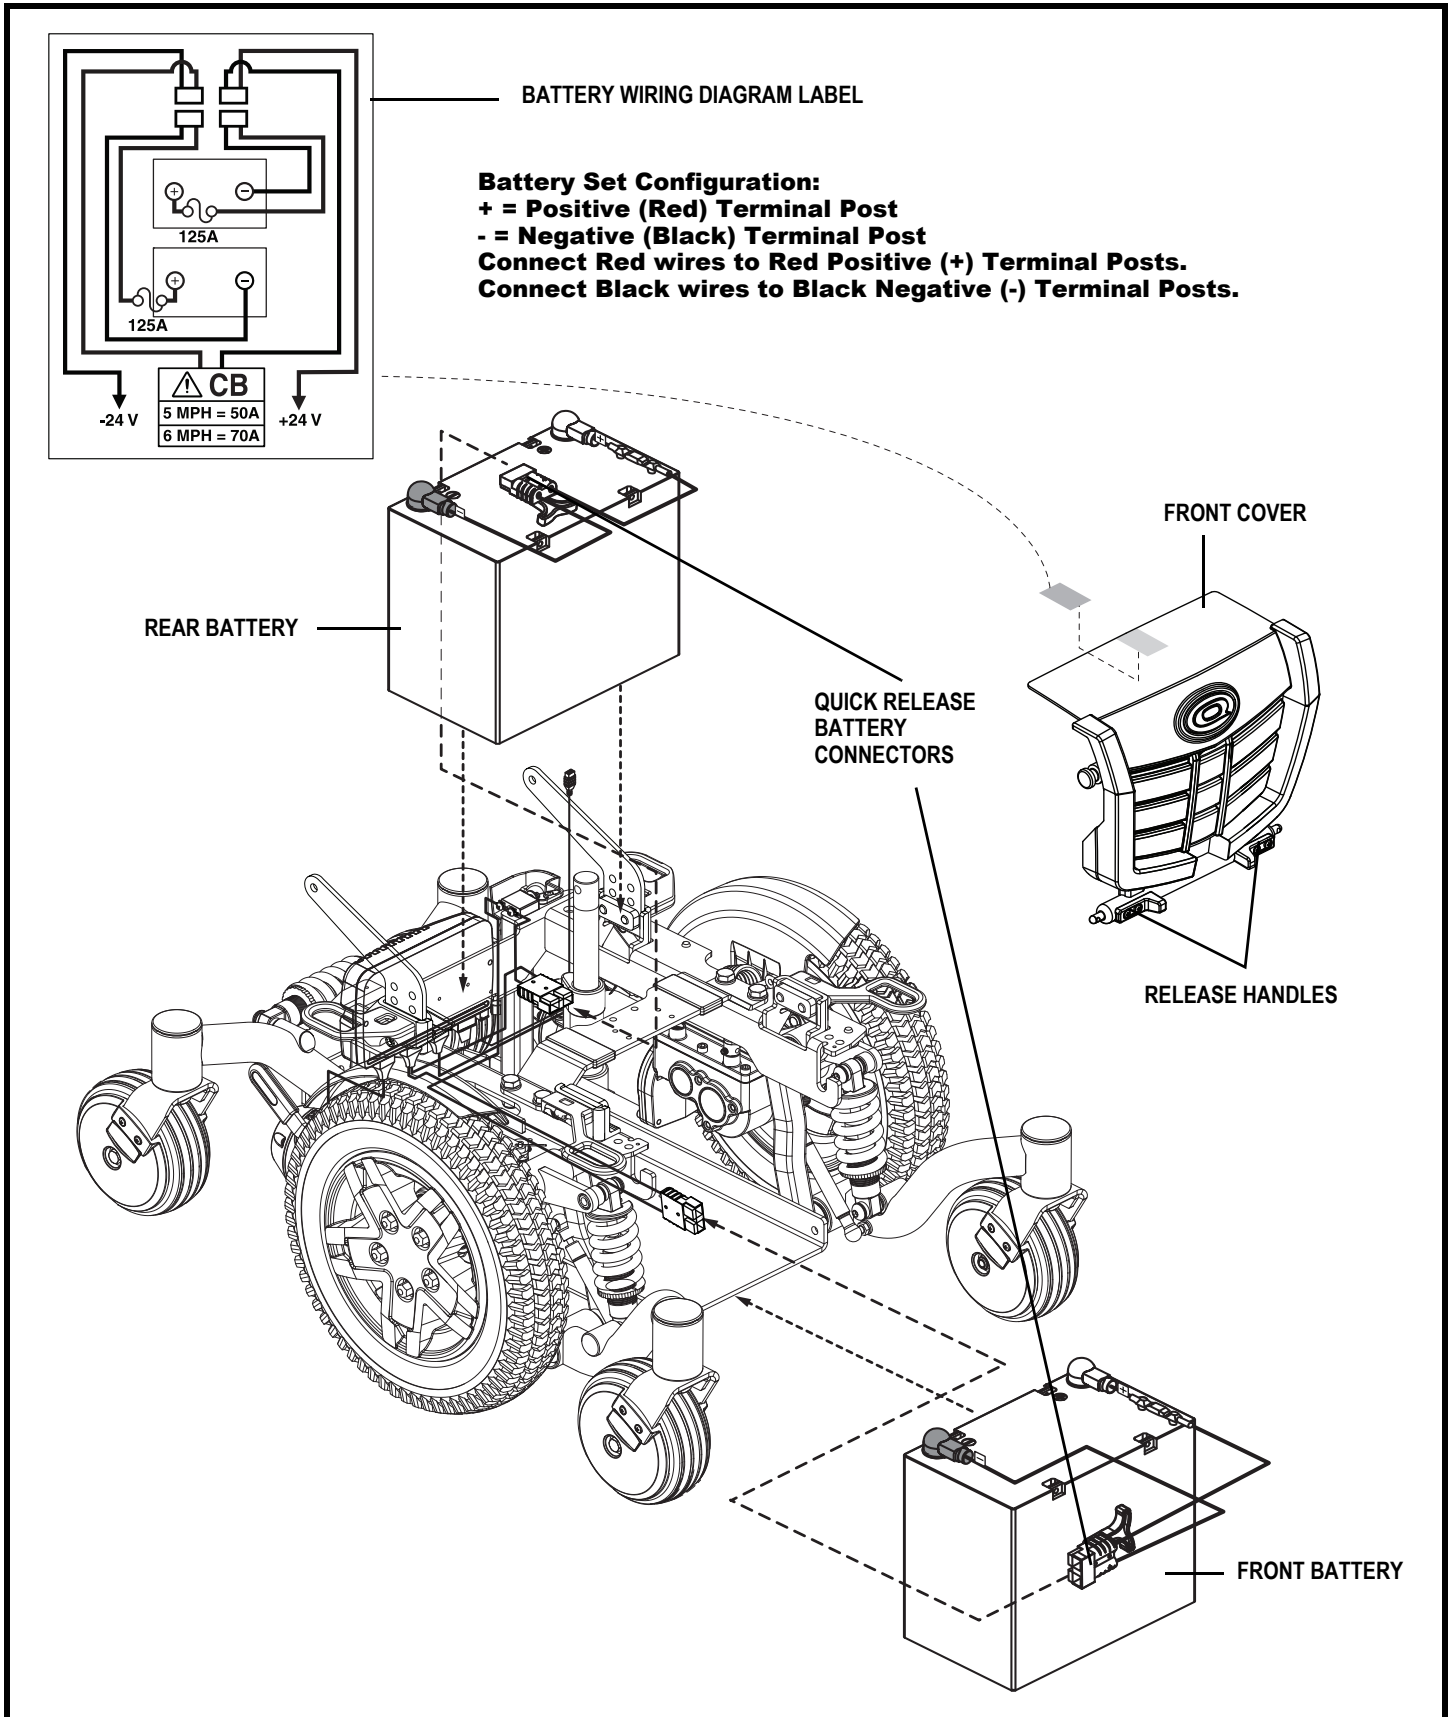

Figure 24. Battery Installation
5. Remove the front cover by squeezing the release handles (**see figure 24**) and lifting the front cover up and away from the power base.
12. Connect the battery harness to the new front battery according to the battery wiring diagram. **See figure 24.**
13. Connect the battery harness to the new rear battery according to the battery wiring diagram. **See figure 24.**